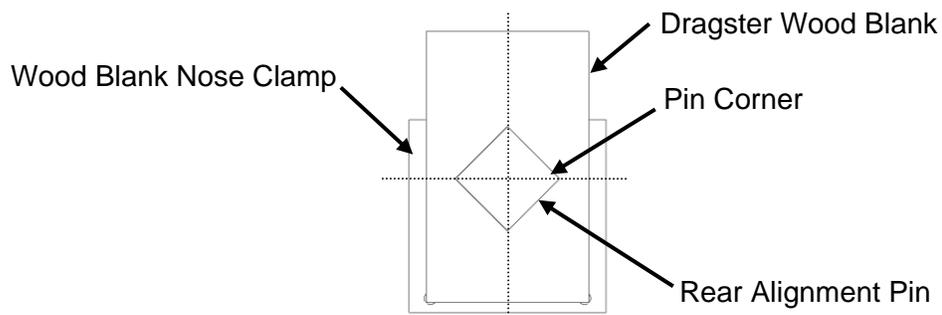

FIGURE 8: ORIENTATION OF THE ALIGNMENT PIN
2. **Assemble the rear alignment pin.** Insert the rear alignment pin into the 3/4" hole in the back of the Dragster blank. Push it in all the way and orient it so that the corners of the square shaft are pointed to the flats of the wood blank (Figure 8).